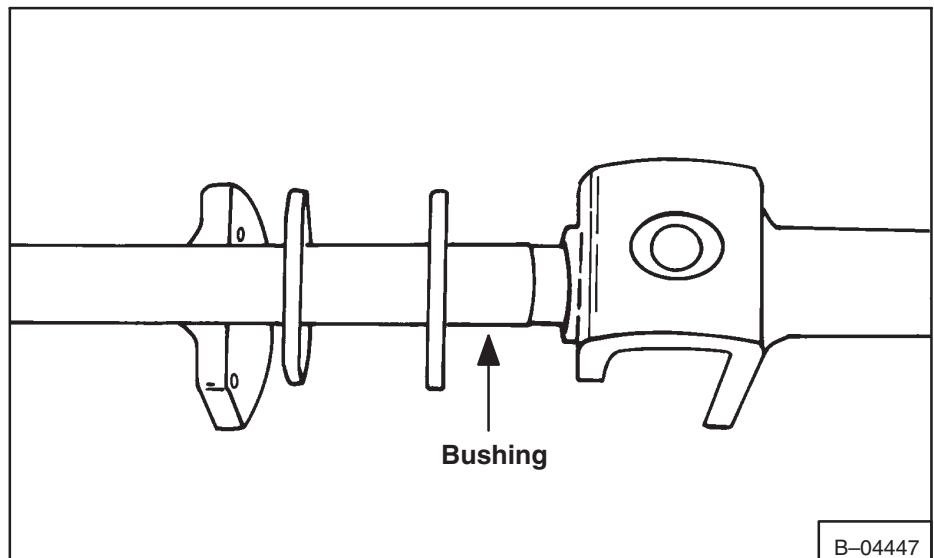

Fig. 3-13 Installing Steering Lever Assembly
4. Install the two steering lever assemblies together (Fig. 3-13).